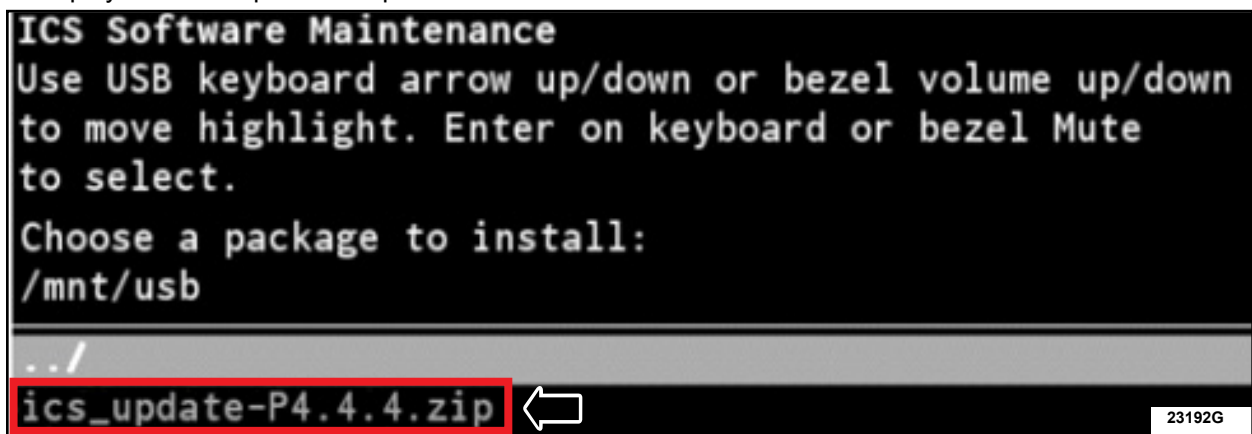

FIGURE 7
9. Using the volume up and down buttons, highlight **ics_update-P4.4.4.zip** and select by pressing the mute button. See Figure 7. The software update will now install. Installation progress messages will display while the update is in process.